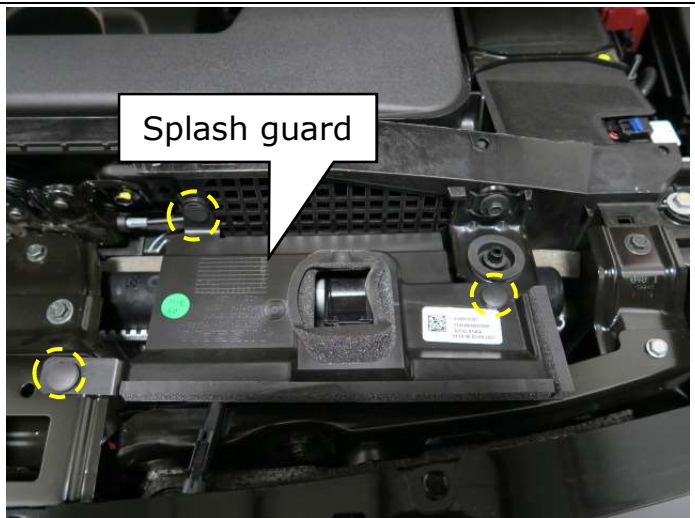

Figure 5
7. Remove the (3) retaining clips securing the splash guard shown in Figure 5.